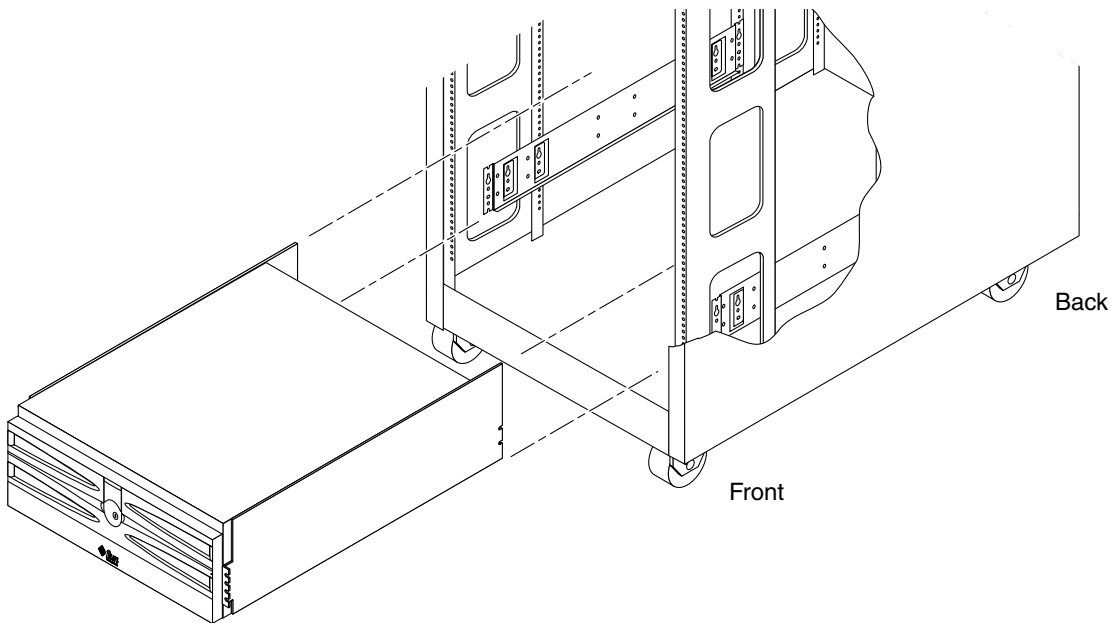

FIGURE 6 Aligning the Mounting Tray With the Mounting Brackets
3. Align the mounting tray with the mounting brackets in the cabinet (FIGURE 6).